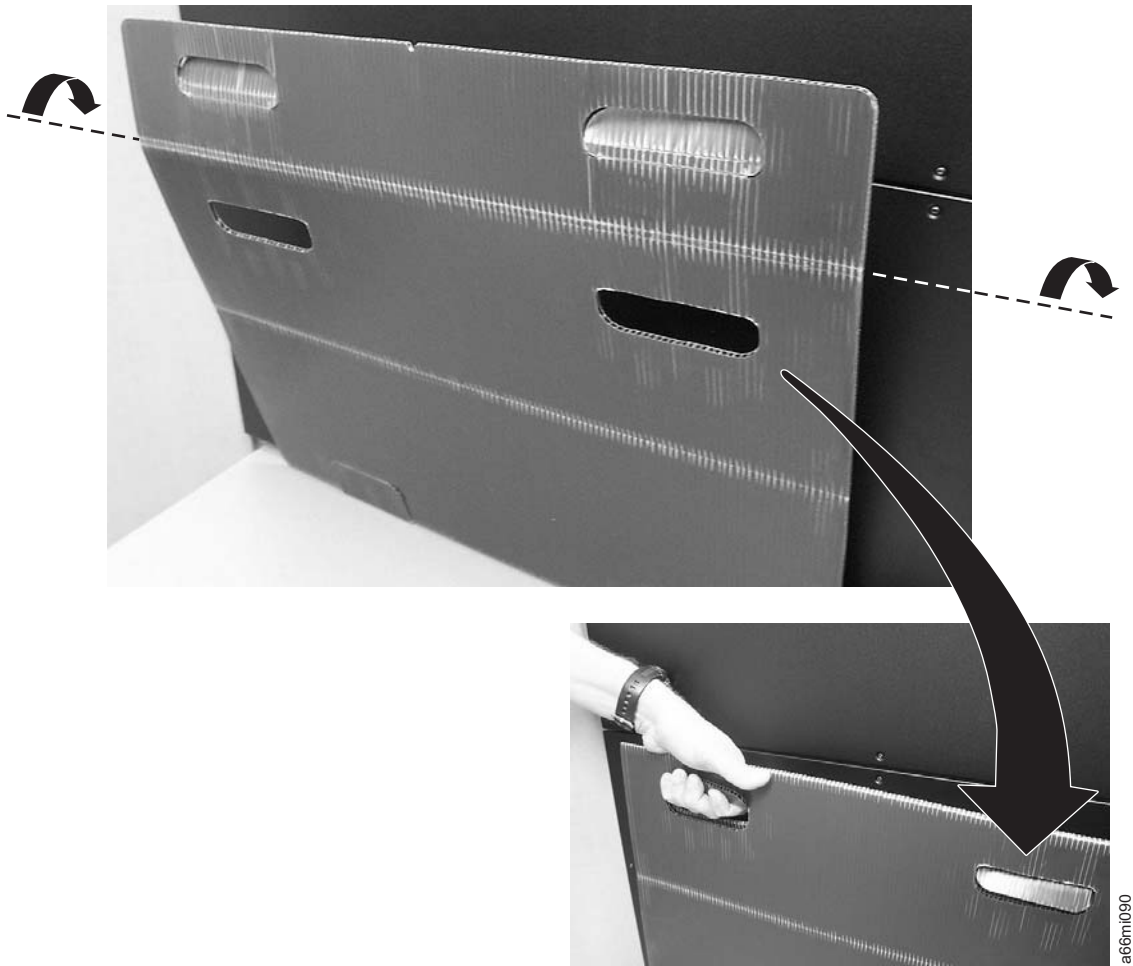

Figure 4-17. Lifting Sling
4. With a person on each side of the module, lift the module with the sling provided (see Figure 4-17 on page 4-16 to see how the lifting sling handles should be folded).